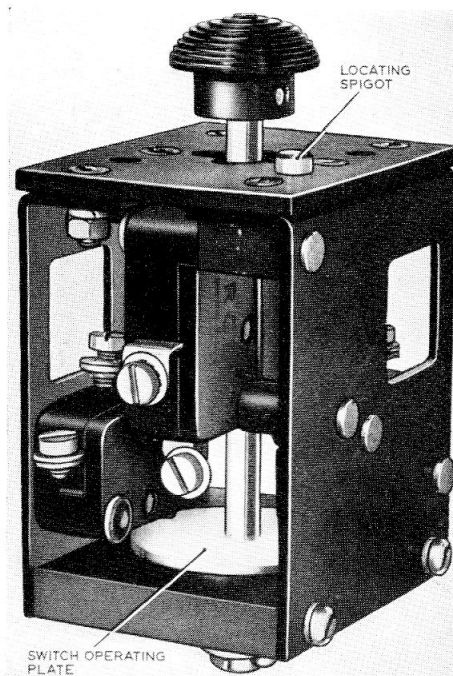

Fig. 1. Selector switch, Harley 4-way
1. The Harley 4-way selector switch, shown in fig. 1, is designed for controlling the operation of the Harley, Type 500 Mk. 1, landing lamp in azimuth and elevation. The switch is fitted in the rotor pitch lever of the helicopter controls and has a knob which may be readily identified by touch, a separate switch is used to control the landing lamp filaments.